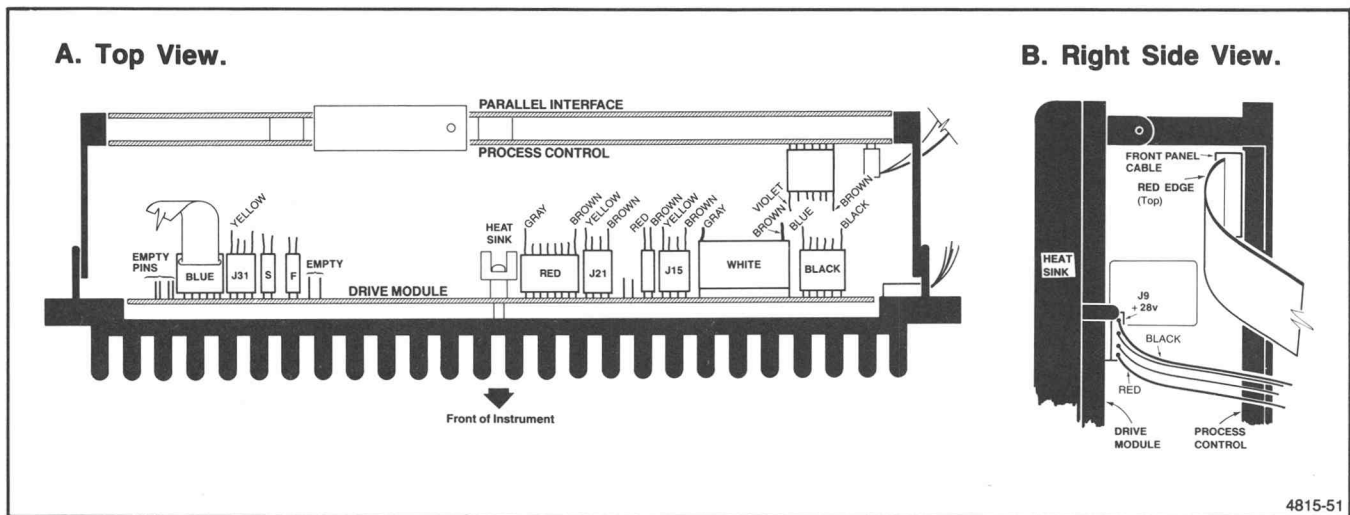

Figure 6-3. Cable Connections to the Circuit Boards.
3. Remove the cables attached to the Drive Module and Process Control boards. Figures 6-3 show these connectors and their locations.